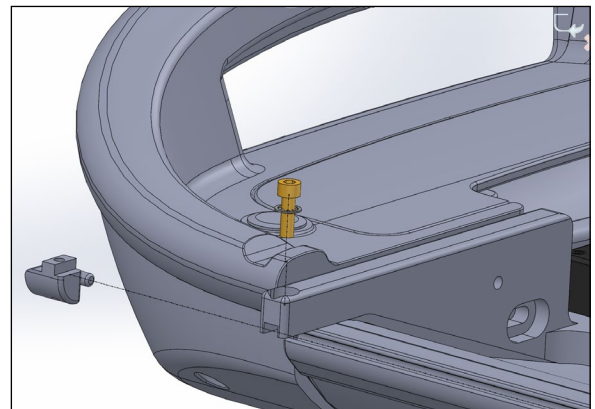

Fig. 48
3. Slide the pins on P/N 2007780 and 2007805 into the groove on the edge of the CT cradle as shown in Fig. 48.